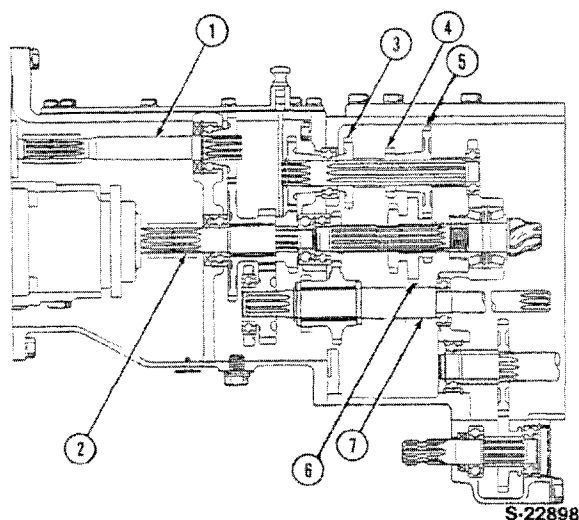
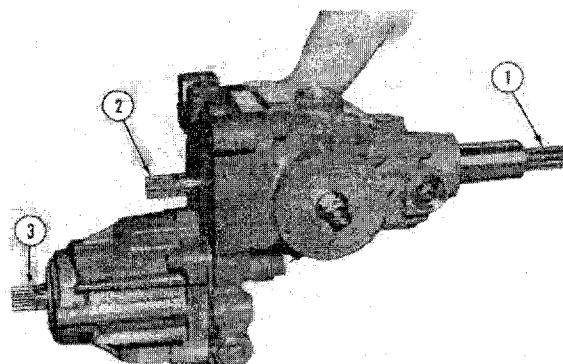

Figure 81
Figure 82
The hydrostatic transmission gearbox, Figure 81, provides the power flow from the hydrostatic unit for the following functions:
The upper hydrostatic shaft (2), Figure 82, provides a direct drive from the engine to the PTO front countershaft (7), Figure 81.
The lower shaft (3), Figure 82, provides hydrostatic motor to drive the rear axle assembly.